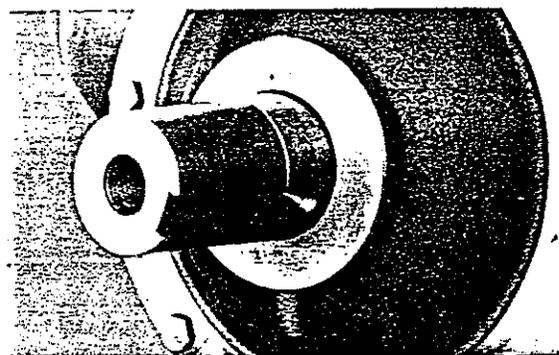

Fig. 49 Crankshaft without flywheel
d) Remove belts or coupling and take off the flange and fly wheel as shown in Figure 49.
a) As the assembly is kept in position by the cage guide only, the valve assemblies can easily be removed by hand (Fig. 49). However, when carbonized oil and slag adhere to them remove carefully, being careful not to allow any to drop into the cylinder. Also do not drop anything into the cylinder sleeves as this may scratch the linings.